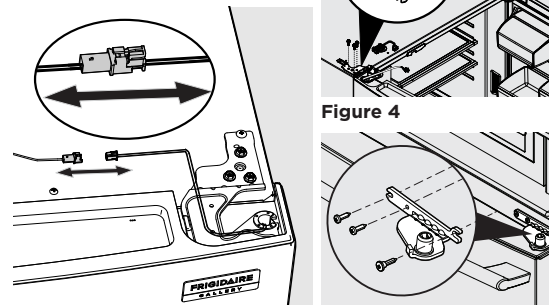

Figure 2
2. Disconnect any electrical harnesses running from the door to the hinge cover. See Figure 2.